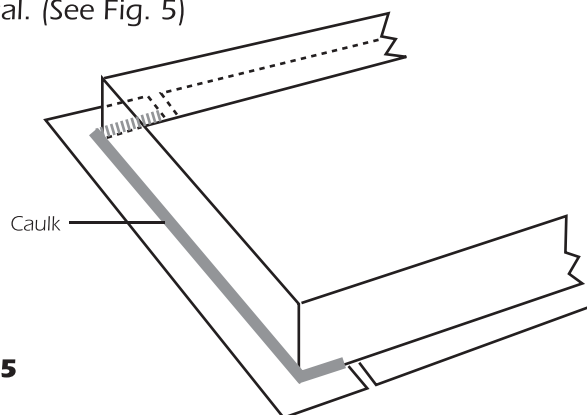

Fig. 5
Step 4– Run a 1/4" - 1/2" bead of caulk (enclosed) around the header end of the stair (end with hinge) from the break in the insulation on one side to the break in the insulation on the other side. Bead should be situated where the horizontal meets the vertical. (See Fig. 5)